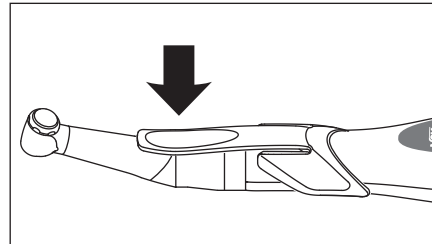

Fig. 8
- 3) Press the POWER Key for more than two seconds to turn on the power, push the portion marked with an arrow as shown in Fig. 8, and confirm that the motor handpiece rotates properly.